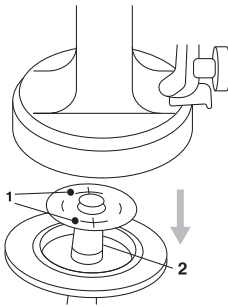

Fig12
- The device can only be operated with an integer valve (Figs. 12,1). If paint passes through the valve clearance (Figs. 12,1), check and clean the valve (see Maintenance Section).
- Pull the straw out of the bottom of the gun and remove the valve (fig.12)
- Insert the valve (figs. 12 refer to 1) into the upper portion of the straw and place it in the groove.